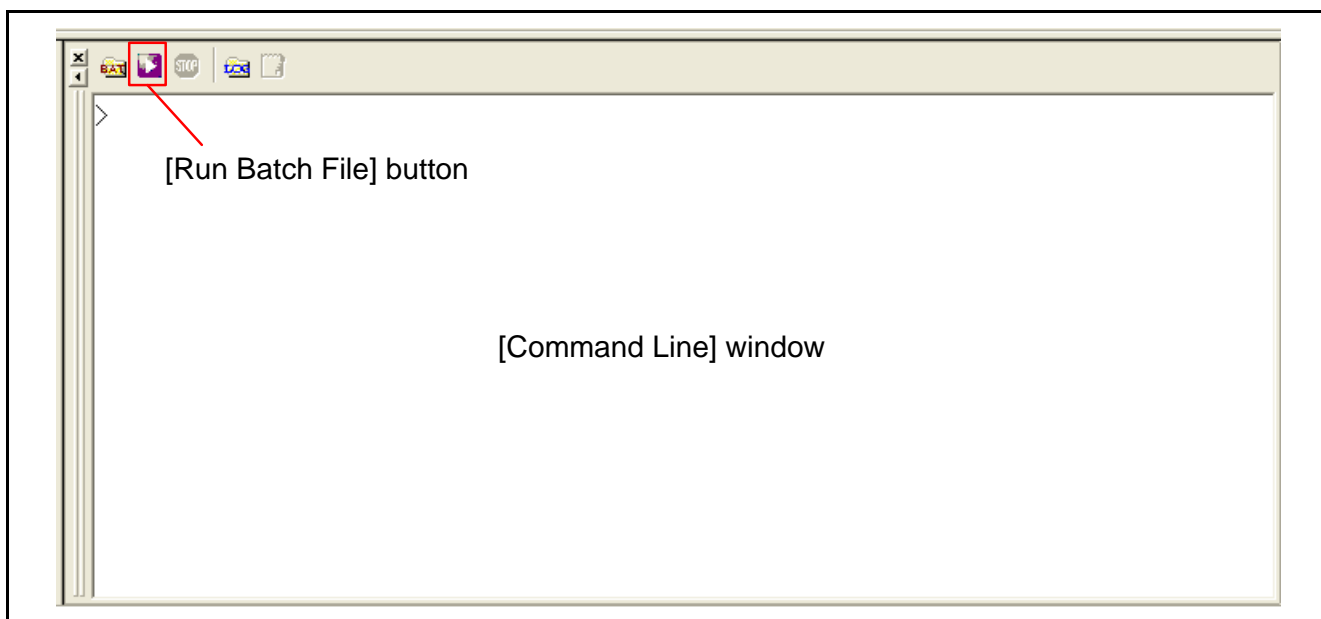

Figure 10.3 [Command Line] Window and [Run Batch File] Button
5. After the connection is established, select [Command Line] from the [Display] menu of High-performance Embedded Workshop to display the [Command Line] window as shown in figure 10.3.